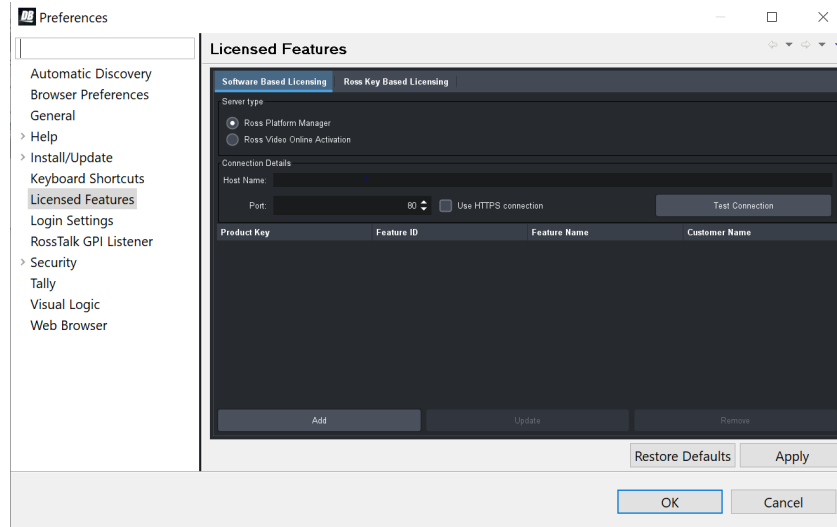

Figure 4 - DashBoard Licensed Features - Software Based Licensing tab
- a. From the main toolbar, select **Window > Preferences**. Refer to Figure 4.